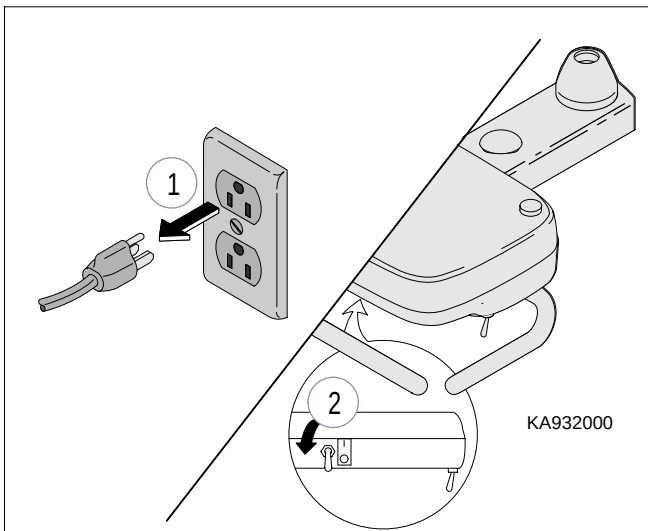
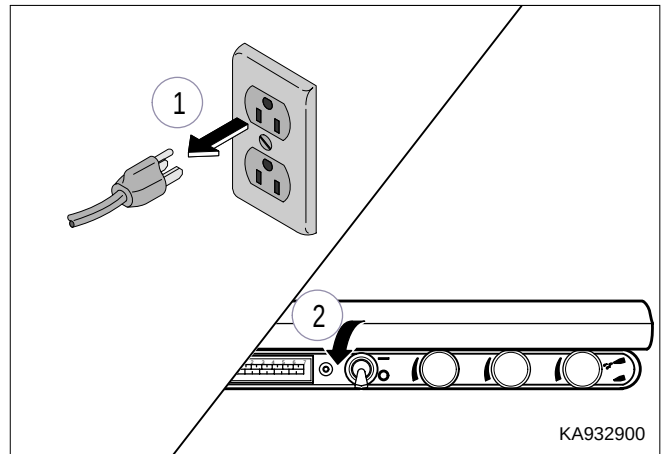

**Figure 4-1. Disabling Unit For Repair
**Figure 4-2. Disabling Unit For Repair
Figure 4-1 shows the Asepsis 21 Delivery Unit. Figure 4-2 shows the International Delivery unit.
- (1) Disconnect delivery unit power cord (1, Figure 4-1 **or** 4-2) from wall outlet.